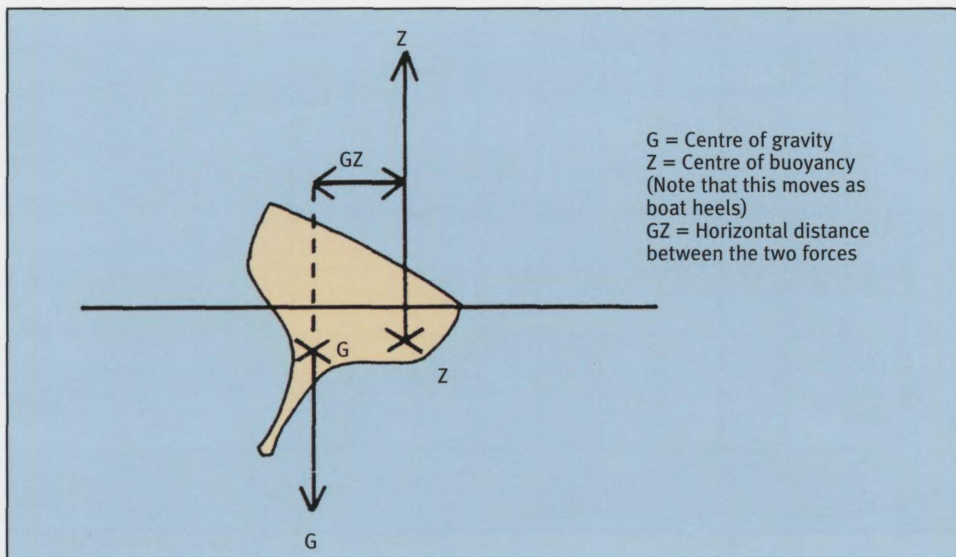

Fig A.1 Stability of heeling yachts.
When a yacht heels, her centre of buoyancy shifts to leeward as more of her volume is immersed on the downwind side (Fig A.1). Her centre of gravity (G), however, stays more or less where it was. This means that as her ballast is pressing down, the buoyancy is pushing up. Both are trying to return the boat to an even keel, and an equilibrium is reached with the sails, which are attempting to do the opposite.